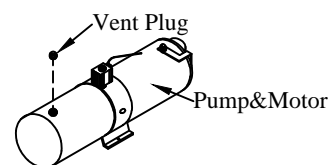

Figure 3: Vent plug installation.
4. **Unscrew** the solid plastic plug from the pump reservoir and **Install** the vent plug provided, if not already installed (Figure 3).